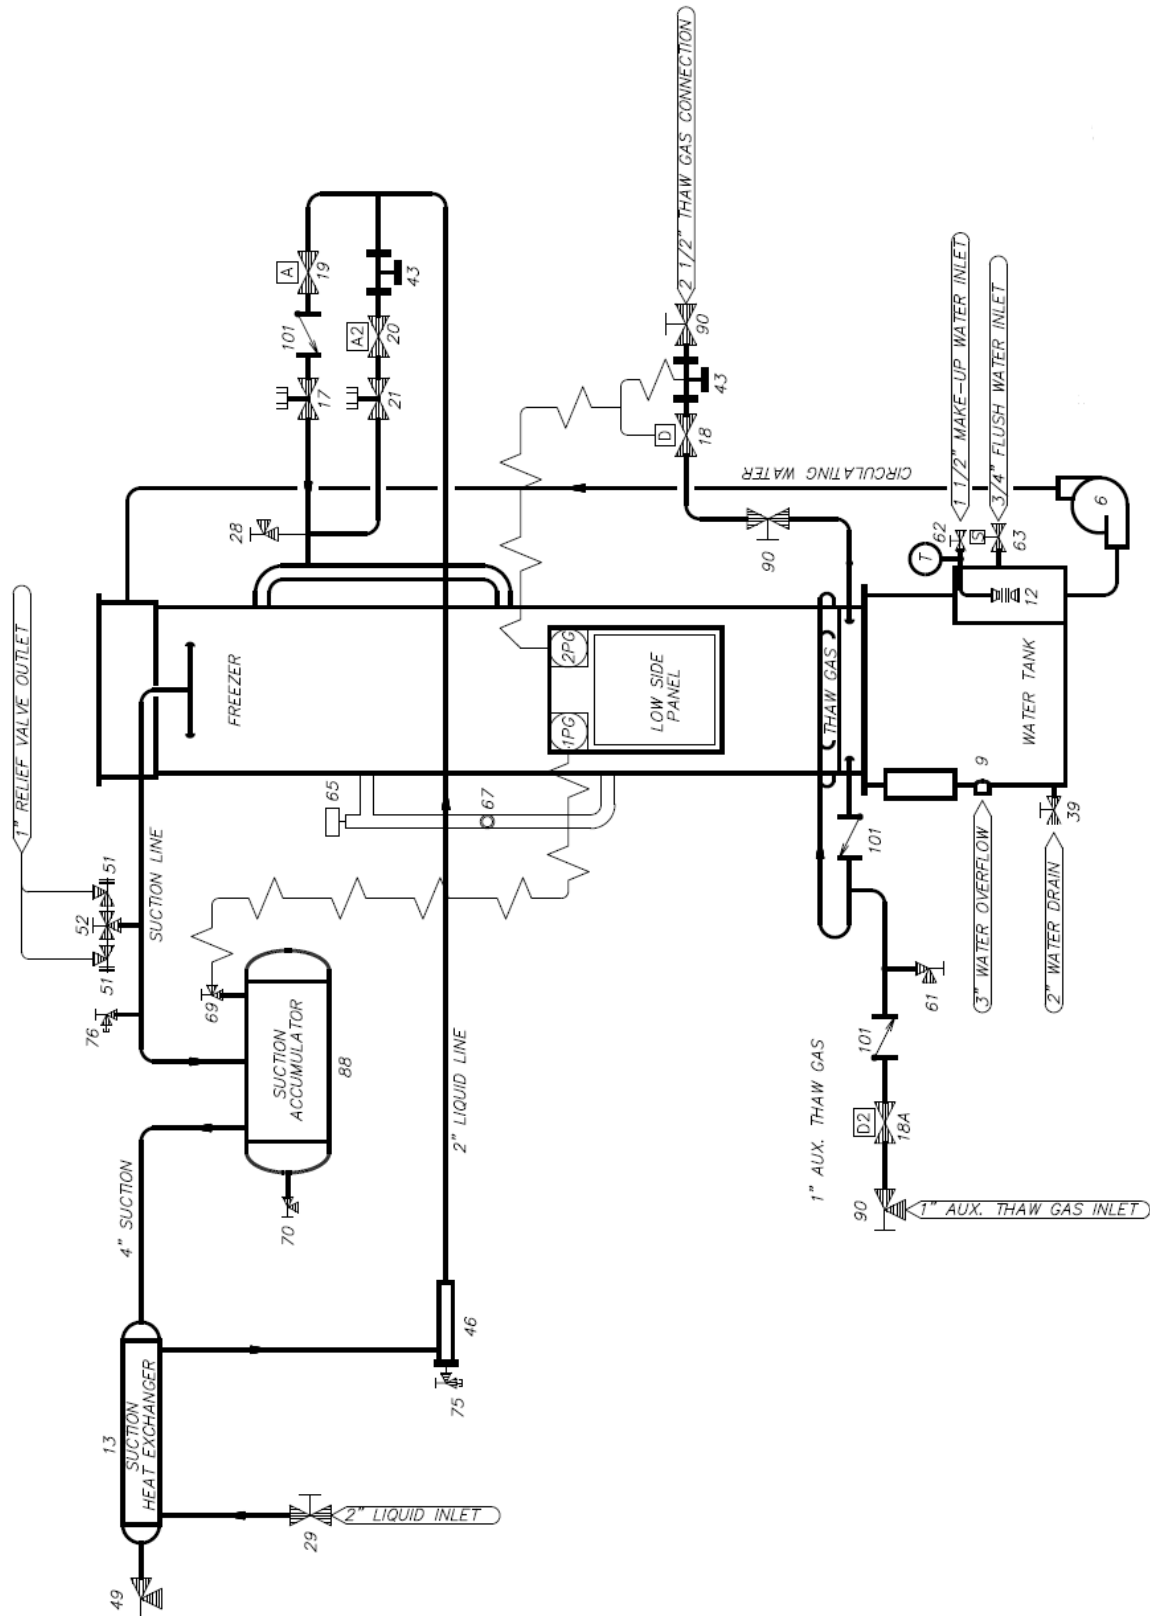

Figure 4-1
Operating Features. Your low side Tube-Ice® machine is an efficient ice producing plant. If installed and maintained properly, it will give many years of operation with a minimum amount of repairs. Refer to piping schematic, Figure 4-1, to identify component parts while following the information and instructions in this manual.
Refrigeration System Review. The refrigeration system uses R-404A refrigerant. Following the piping schematic (Figure 4-1), you will see that during the machine's freeze cycle, the compressor discharge gas goes through the oil separator to remove any oil present in the discharge gas and return the oil to the compressor crankcase. It is then discharged into the condenser and condensed into a liquid by the removal of heat by water passing through the condenser tubes. A reservoir of liquid refrigerant is accumulated in the receiver and is required for thawing purposes (see Table 3-2). Liquid from the receiver flows through the filter drier (46), and the heat exchanger (13), to the "A" solenoid valve (20A), which opens and closes by action of the capacitive level probe (65). The liquid is then expanded through the hand expansion valve (17) and into the evaporator (2) (freezer). The cold, wet refrigerant floods the evaporator and is in contact with the outside of the ice making tubes through which water is being circulated. The heat contained in the water passes through the wall of the tubes, lowering the temperature of the water, causing it to freeze and to form a long tube of ice that adheres to the inside of freezer tubes. Since the purest water freezes first, the circulating water continues to wash the dissolved solids down into the sump area of the water tank. The flushing valve (63) helps to rid the water tank of increased dissolved solids by flushing them out the overflow during the harvest (thawing) period.